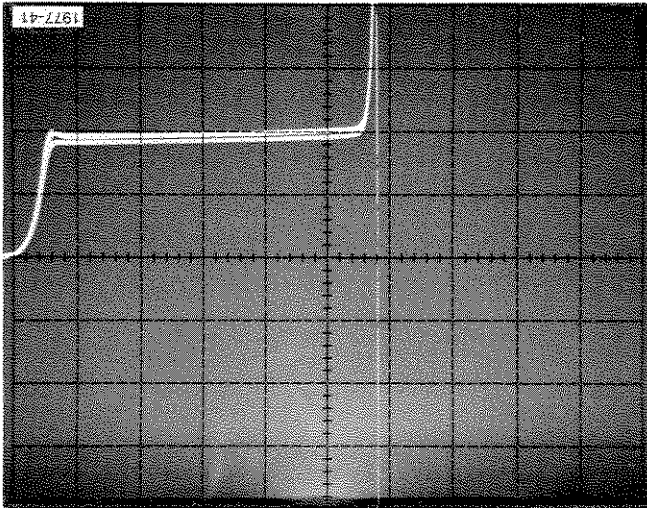

Fig. E-5. + and - input bias current.
- f. Check that the Input Offset Current is  $\leq 50$  nA dc (one division of display gap minimum, the opening between the +INPUT I and the -INPUT I displays is the Input Offset Current, see Fig. E-5).